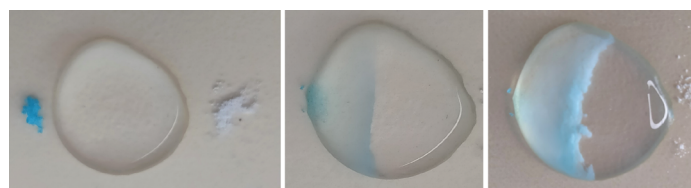

Figure 3: Microscale reaction of copper(II) sulfate (blue) and sodium carbonate (white).
Figure 3 shows what happens when tiny grains of copper(II) sulfate and sodium carbonate are added to each side of a drop of distilled water. The two ionic solids dissolve and diffuse through the water, and a line of basic copper carbonate precipitate forms in the centre of the drop where the copper and carbonate ions meet.